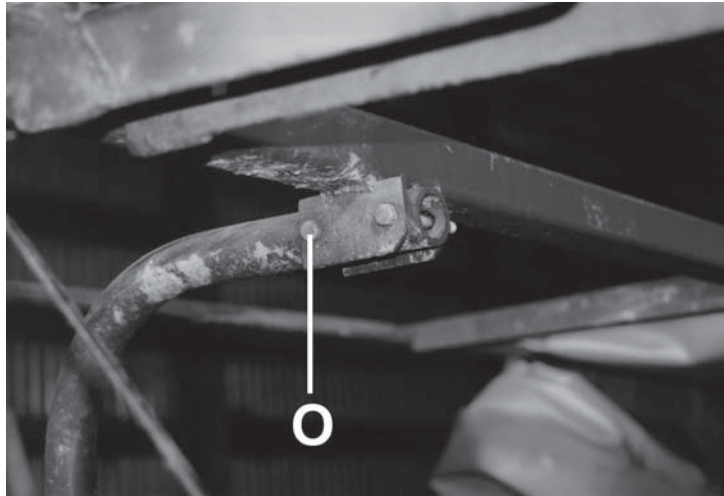

Figure 11
14. Attach the outer support weldment to the swath board bracket and the cover frame tube as shown (**Figure 11&12**). Using two M10 x 75 mm bolts and locknuts on top (O), and one M12 x 50mm bolt (N), and one M12 x 50mm carriage bolt (M).